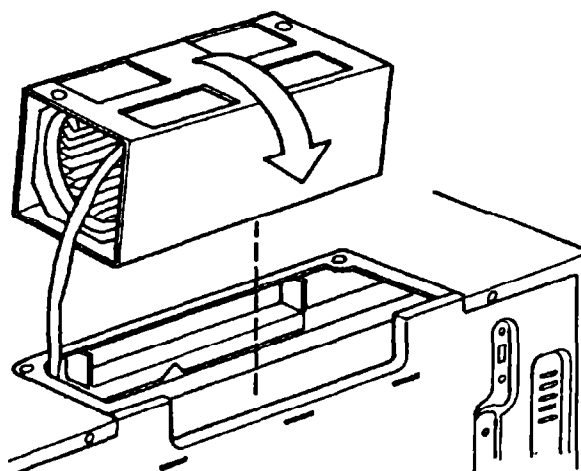

Figure 5
3. Rotate hood fan unit 1/4 turn as shown in Figure5